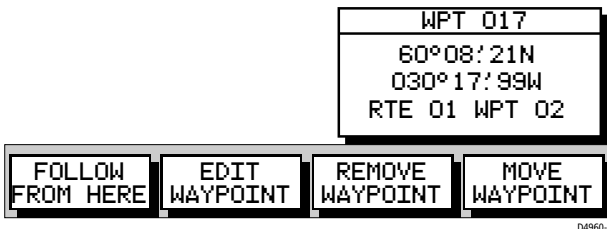

Figure 3-35: Waypoint Data Box and Soft Keys
- To display information about a route waypoint, move the cursor over the waypoint until the letters WPT appear. The Waypoint Data Box is displayed with the Follow Route soft keys as shown in *Figure 3-35*.